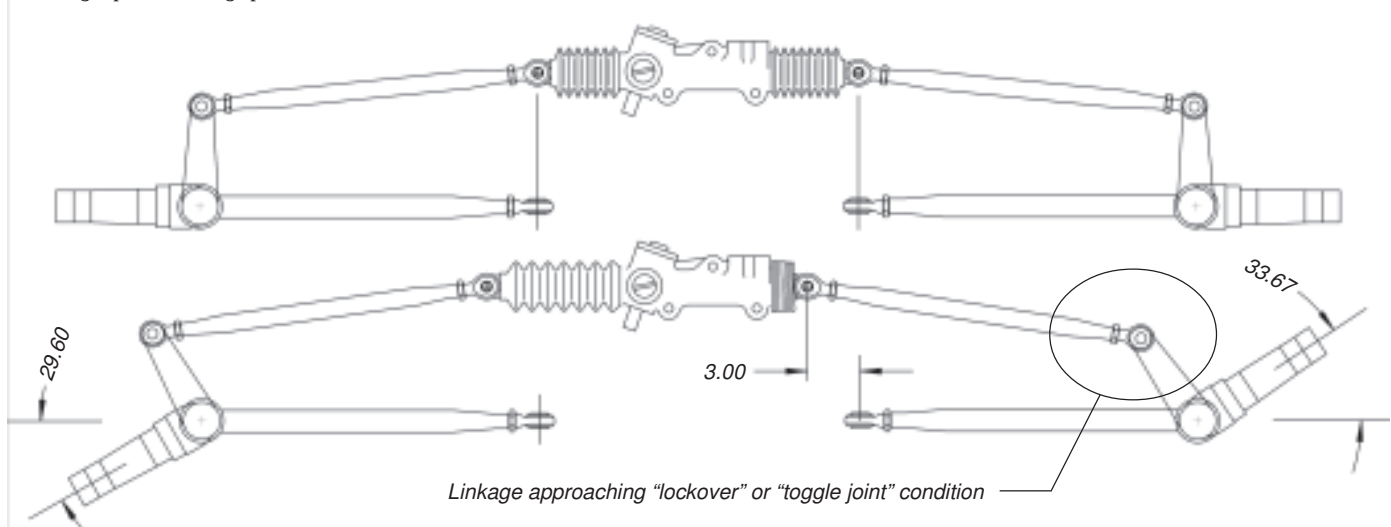

Fig. 14
**Installing the rack ahead of the steering arms reduces the mechanical efficiency of the linkage on the outside wheel as the turning angle increases.** This is the most serious mistake seen on race car front ends. Drag cars are often built this way, but are not expected to do much steering at high speed; when they do they frequently wreck. In figure 14 below, note that the operating angle between the tie rod and steering arm on the right front (in the circled area) is getting uncomfortably close to the self-locking point. Since this is the loaded wheel, countersteering with this geometry can feel like releasing a pair of Vise-grips.